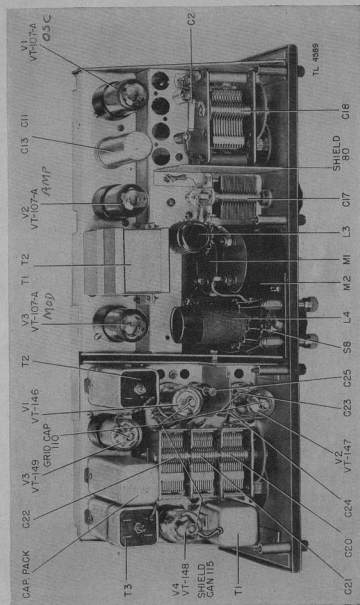

FIGURE 8.—Radio receiver and transmitter BC-474-A, chassis-top view.
10. Over-all equipment.—*a.* The top and bottom views of radio receiver and transmitter BC-474-A, removed from the case, are shown in figures 8 and 9.